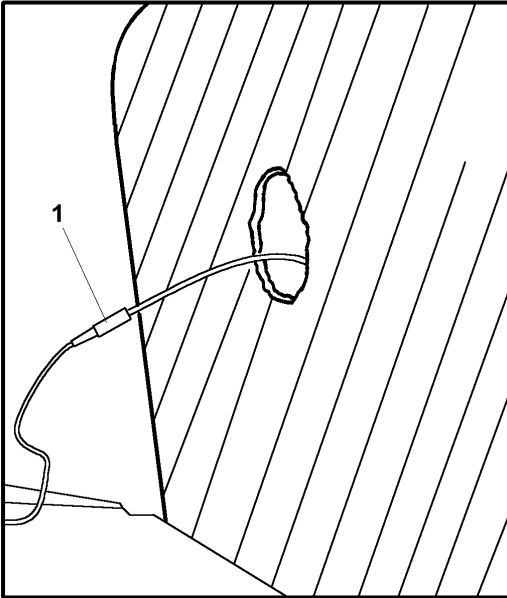
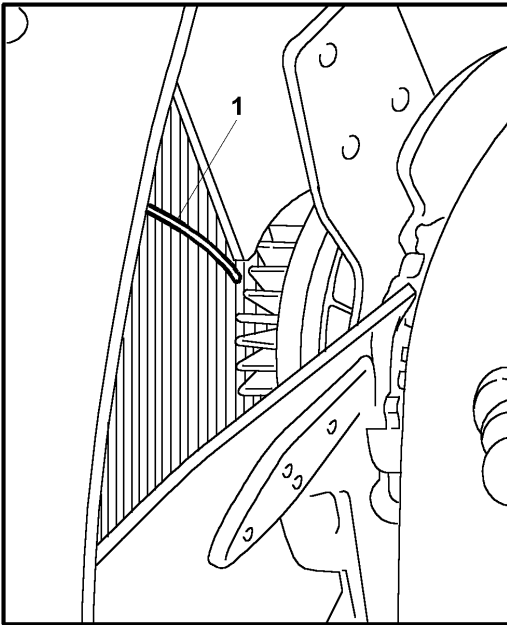

Figure 4 Temperature Probe Inserted through Cardboard and Front of Radiator
Figure 5 Positioning of Temperature Probe
8. Carefully position the temperature probe so that it measures air temperature within 1 inch (2.54 cm) of the fan drive bi-metal. You can safely insert the probe through the A/C condenser, CAC, and radiator core (Figure 4 and Figure 5) .